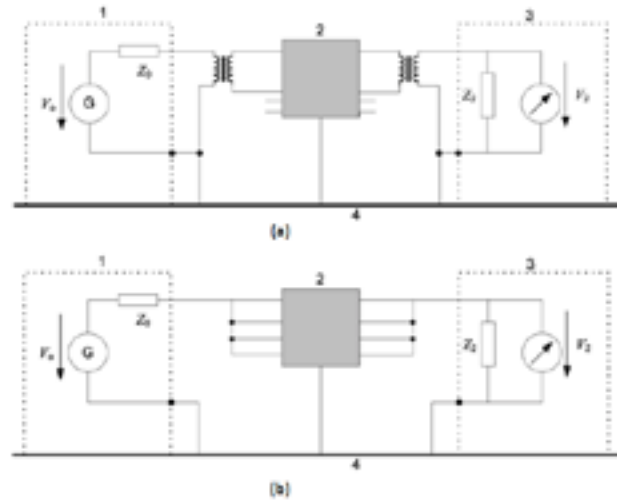

Figure 1 Test set-up for insertion loss, CISPR 17 (a) symmetrical (b) asymmetrical
Take a 50 Ω /50 Ω (source impedance/load impedance) system for instance, CISPR 17 defines two tests to measure the filter performance, which are symmetrical (differential mode) and asymmetrical (common mode). The test set-ups are shown in Figure 1. The signal generator (G) performs a signal sweep between defined frequency range and the voltage over the load (Z2) is measured.